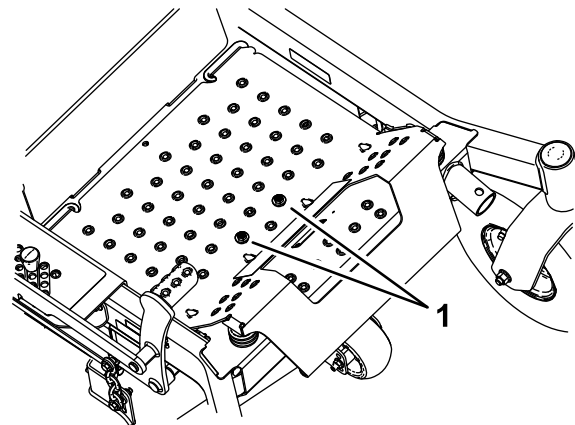

Figure 39
1. Remove the floor pan and the bolts attached to it (Figure 39).